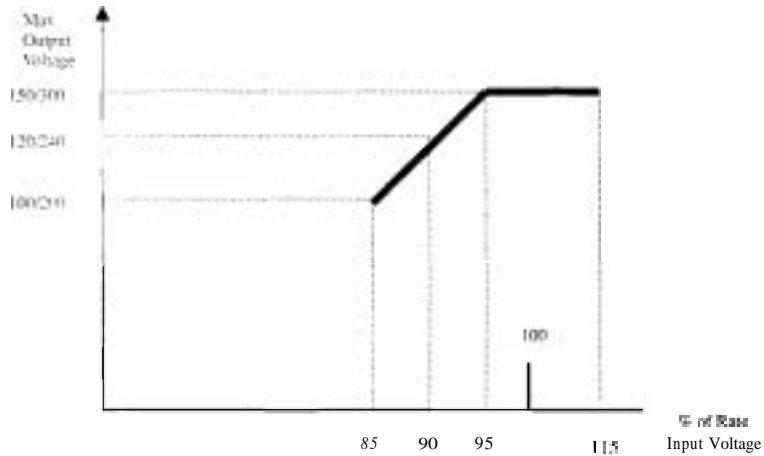

Figure 1
4. Please make sure the input tolerance of this APS-9301/9501/9102 is within  $\pm 15\%$  of rated voltage (see figure 1)